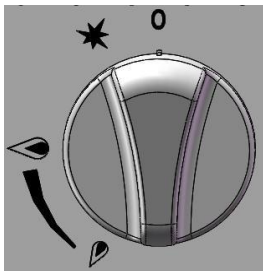

Fig. 2
- ①Align the control valve knob on the "0" position (Fig.2), so that the valve is closed.